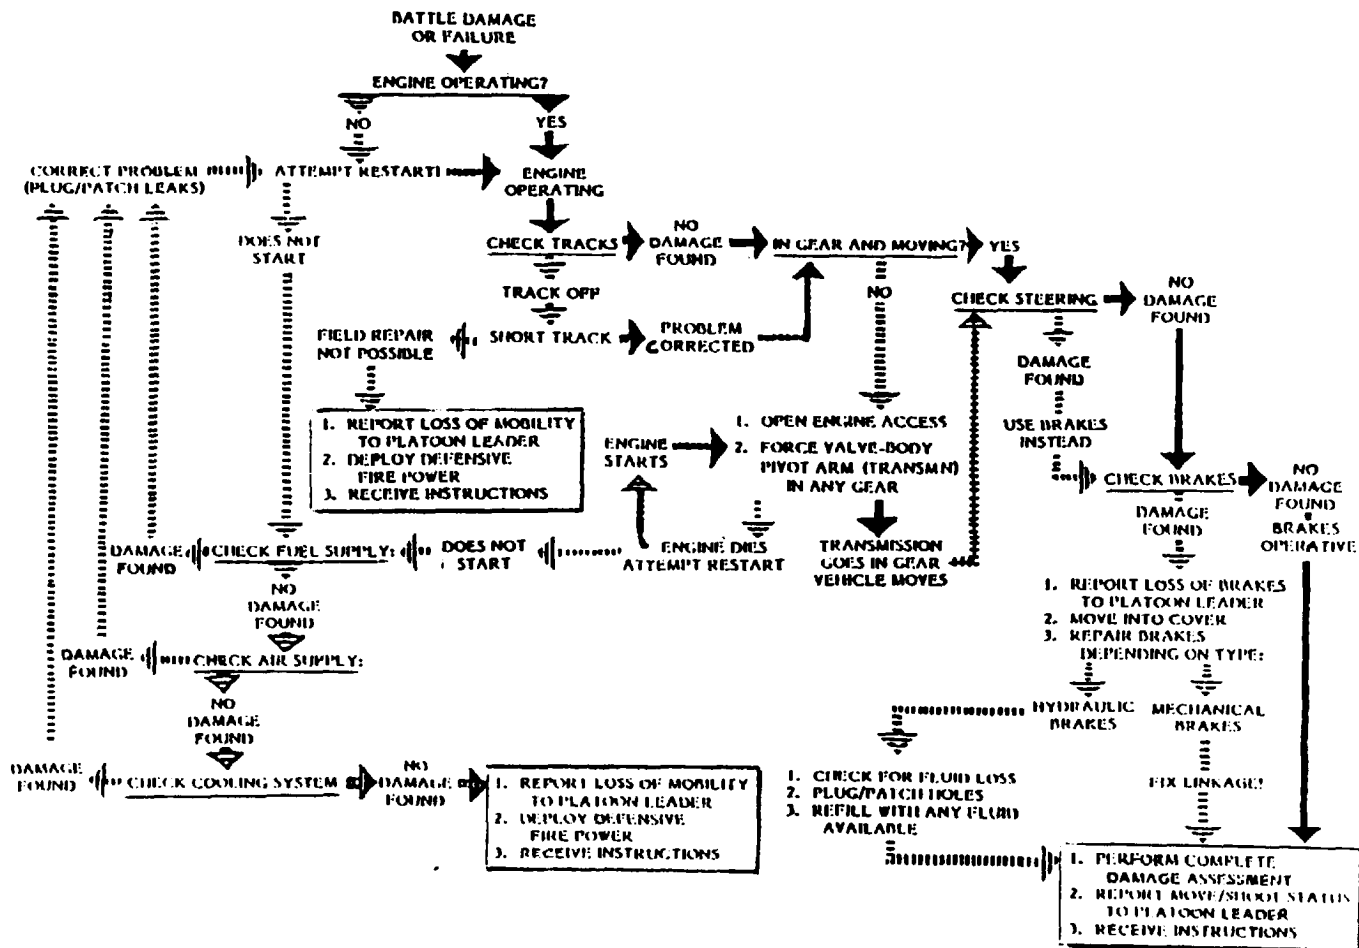

Figure 2-1. Battlefield Damage Assessment Process.
a. The assessment procedures are structured using the logic process shown in figure 2-1 below.